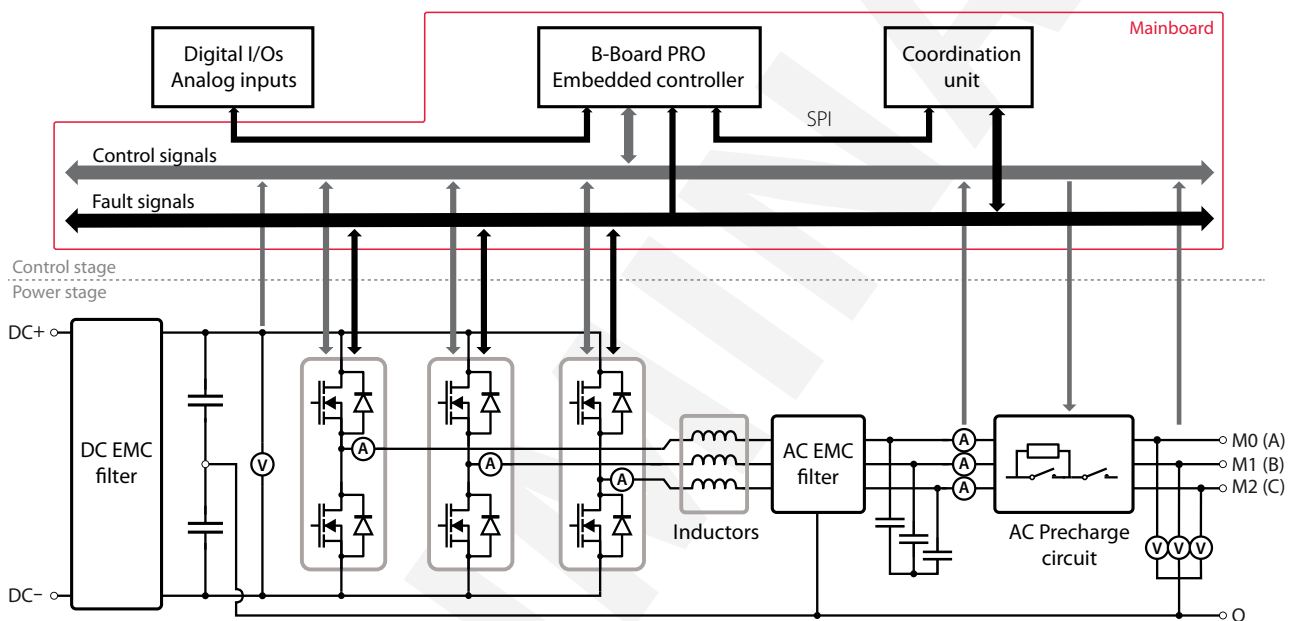

Fig. 4. Functional overview of the TPI8032.
- » **Sensors** : Ten voltage and current sensors are distributed along the converter, as shown in Fig. 4.